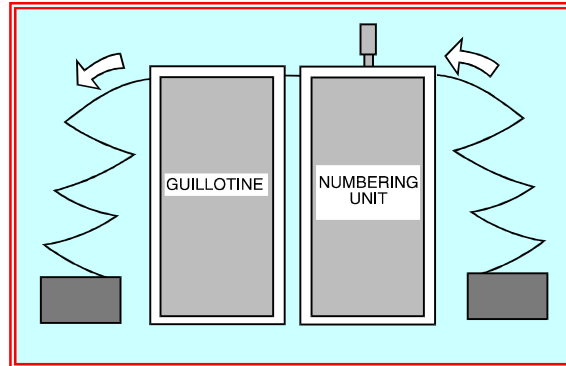

Fig 4.10 No-Cut Operation with On-Line Numbering Unit
- Note that when used in this mode, the guillotine controls the paper feed. Having set up the numbering unit with the guillotine, as shown in Fig 4.10 and loaded the paper on the guillotine, proceed as follows.